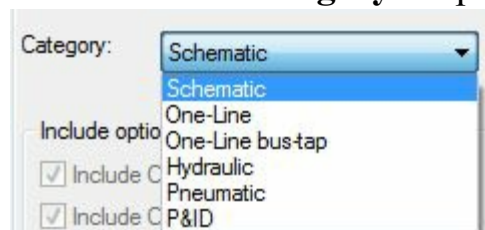

Figure-4. Category drop-down
- Click on the **Category** drop-down. The list of various options will be displayed; refer to Figure-4.